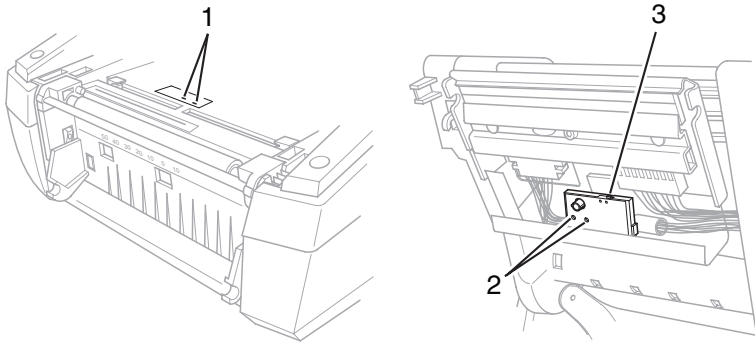

Figure 3, Selecting the Gap Sensor
The printer has gap sensors (**Figure 3, 1** and **2**) which can detect the start and end of a label. These sensors are controlled by a switch setting (**Figure 3, 3**). The switch can be set to the left or to the right. All Brady IP-enabled material will instruct the user, via the front panel LCD, which position to set the switch. For non-standard material, set the sensor to position number two. Non-standard notched material is dependent on specific supply criteria.
3. Move the switch (**Figure 3, 3**) to the left or right as required.